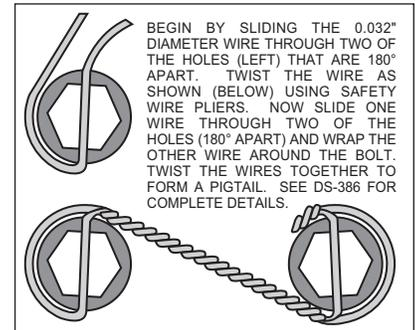

Figure 4. Safety Wire Diagram
- Install bolts (2) through caliper mounting bracket (1) into steering arm, finger tighten only. After you are positive of the bracket (1) alignment, remove the mounting bolts (2) one at a time and Apply red *Loctite*® 271 to bolt threads, then reinstall. Torque bolts (2) to 30 ft-lb. **NOTE:** Be sure the heads of the bracket (1) insert nuts are facing outward toward the wheel.
- Install wheel studs (3) into the hub (4). Torque to 77 ft-lb. **NOTE:** There are two (2) five lug patterns in the hub (5 x 4.50 and 5 x 4.75). Make sure of the correct hole pattern for the correct wheel application before installing studs into hub.
- Pack the large inner bearing cone (5) with high temperature disc brake bearing grease (available from your local auto parts store) and install into the backside of the hub (4). Install the grease seal (6) by pressing into the backside of the hub (4).
- Attach rotor adapter plate (7) to rotor (8) using bolts (9). Torque bolts (9) to 180 **in-lb**. Safety wire bolts (9) using standard 0.032 inch diameter stainless steel safety wire as shown in Figure 4. Please refer to Wilwood's data sheet DS-386 (available at www.wilwood.org/ds386.pdf) for complete safety wire installation instructions. **NOTE:** Dished side of adapter plate (7) should face hub (4). The machined tab side of the iron rotor (8) should face the adapter plate (7).
- Mount the adapter/rotor assembly (7 and 8) to the hub (4) using lock washers (10) and bolts (11). Torque bolts (11) to 22 ft-lb. Safety wire bolts (11).
- Pack the small outer bearing cone (12) with high temperature disc brake bearing grease and install into front of hub (4). Slide the hub/rotor assembly (4 and 8) with outer bearing cone (12) onto the spindle. Secure using stock spindle washer, adjusting nut and nut locking device. Adjust bearings per Original Equipment Manufacturer (OEM) specifications.